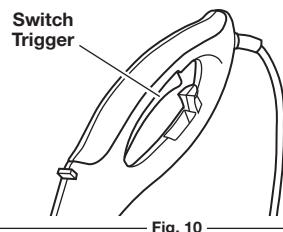

Fig. 10
- Squeeze and hold the switch trigger (Fig. 10).
- Release the switch trigger (Fig. 10).